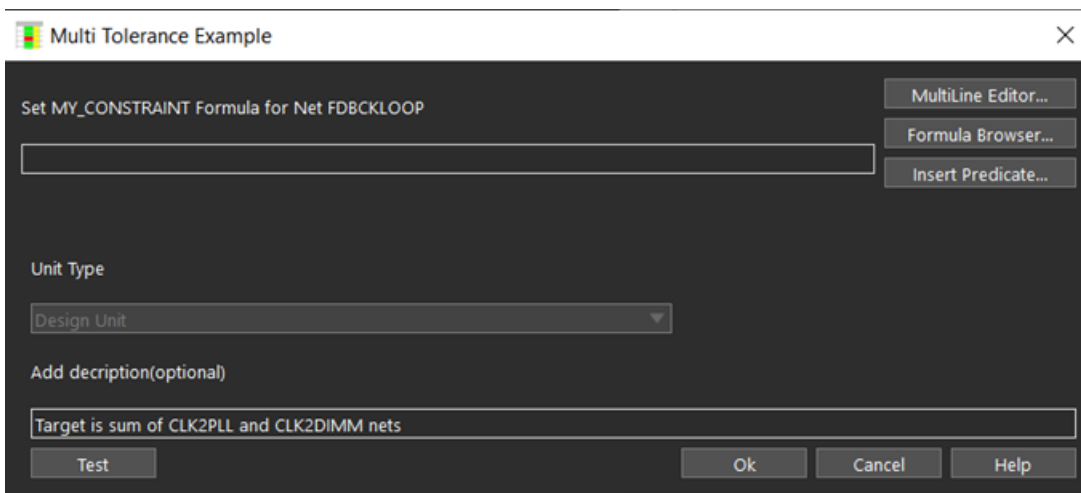

Figure 1-10 Formula Dialog Box
6. Type a description in the *Add description* field. Leave the dialog box open (Figure 1-10).